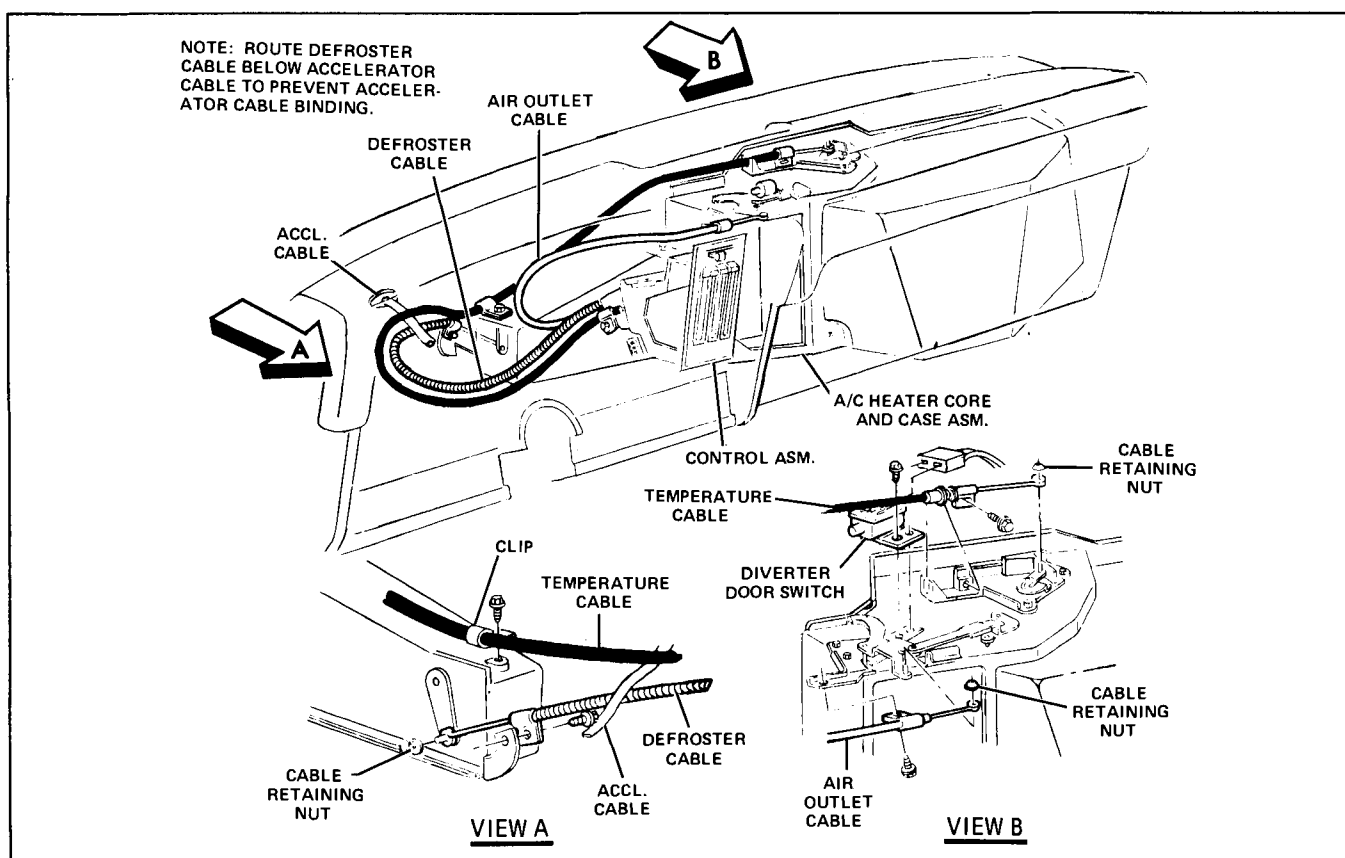

Fig. 1A-131 A/C Heater Cable Routing - X Series
4. If door is not heard seating or if lever is more than 1/8 inch from end of slot, repeat steps 2 and 3 until cable is properly adjusted. See Fig. 1A-126 for cable installation and routing.